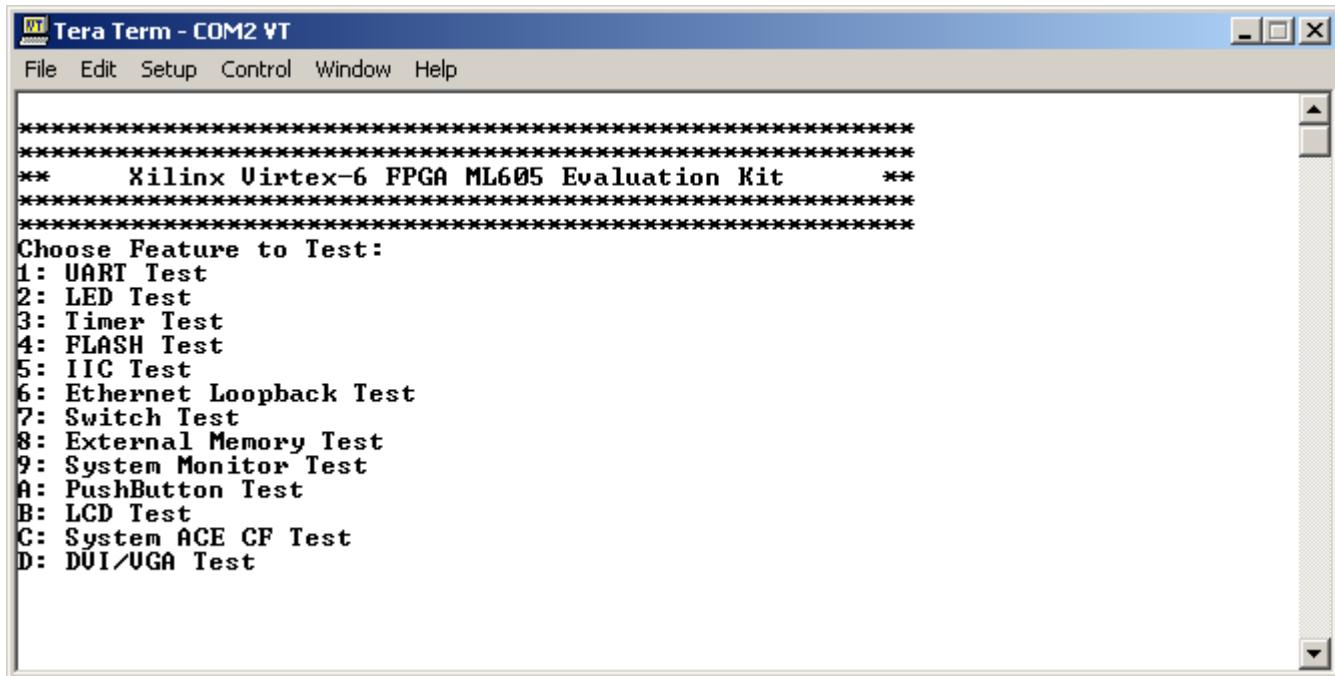

Figure 1-10: Initial Test Menu after FPGA Configuration
9. After FPGA configuration, a menu of feature tests appears as shown in the Tera Terminal window (Figure 1-10).